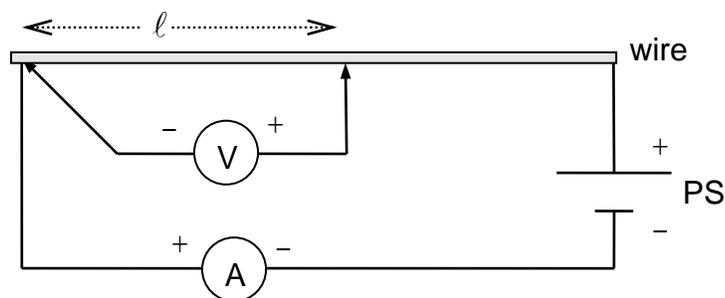

FIGURE 2
1. Connect the slide wire to the power supply as shown in Fig. 2. Adjust the power supply voltage so that a current of 0.5 Amps or less flows through the circuit.
2. Record the voltages (V) and currents (I) for lengths (ℓ) of the wire of 20, 40, 60, 80, and 100 cm. Simply press the end of one of the voltmeter leads to the wire to make contact for a voltage reading. Press at different points along the wire to change the length.
3. Calculate the resistances (R) of the various lengths of wire using Ohm's Law (i.e., using $R=V/I$). Note whether the incremental change in resistance is nearly constant.